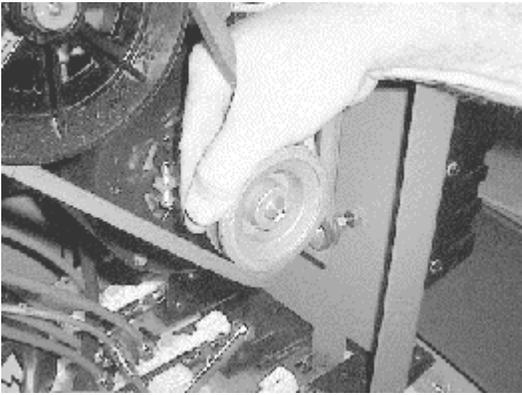

Figure 5
The drive belt may be removed without loosening the motor or changing the adjustment bolt setting. Roll the old belt off of the small (motor) pulley, hang the new belt on the large (transmission) pulley, and roll the new belt in place (*Figure 5*)
- Replacement of the **Drive Belt** can be done without adjusting the motor or transmission (see *Figure 5* in the text).